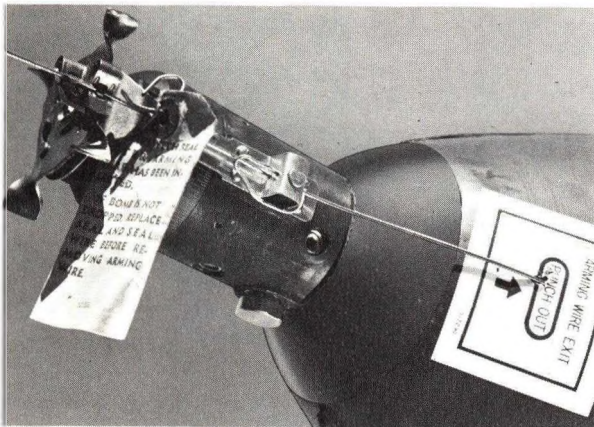

Figure 4-8. Fahnestock Clips Attached to Arming Wire.
14. Attach two Fahnestock clips to end of arming wire to secure it, figure 4-8.